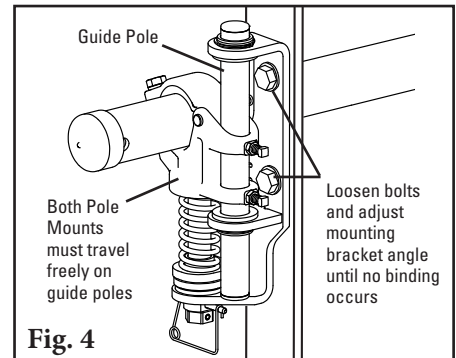

Fig. 4
5. **Set adjusting rod sleeve.** After setting the blade tension, screw the adjusting rod sleeve into the UHMW bushing until 38 mm (1-1/2") is showing (Fig. 4). Tighten the adjusting rod sleeve jam nut.
- 4. Ensure the tensioner travels freely.** Pull up and push down on each pole end to ensure the pole mount travels freely on the guide pole. If there is any sign of binding, loosen the bolts on the mounting base and pivot until the tensioner moves freely (Fig. 4). Retighten bolts.
4. **Set the tip angle.** With angle setup gauge provided, rotate the tips to the preset angle (Fig. 4) and lock the pole in place by tightening the clamp block bolts equally.
NOTE: Make sure there is NO tip-to-belt contact while making this alignment. If contact occurs, lower the pole by loosening the clamp block lock bolts and raising the top adjusting bolt jam nut (Fig. 4). When tips are lowered and not touching the belt, repeat this step.